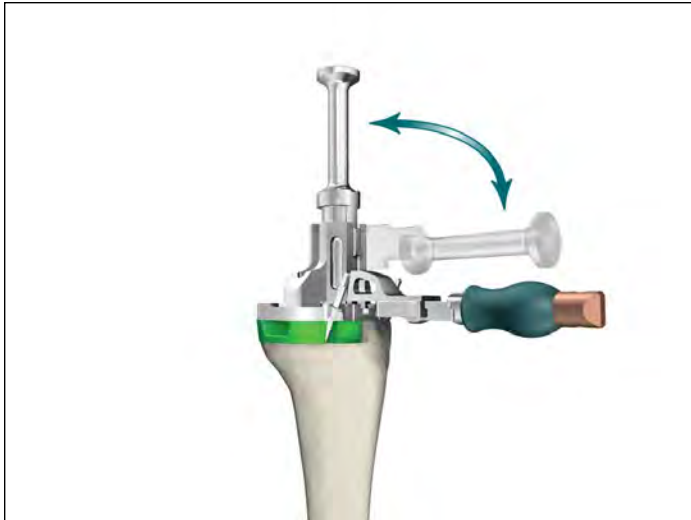

Figure 15
- To extract the Keel Punch, lift up on the Keel Punch Guide handle and pull the handle to cantilever the Keel Punch out of the tibia (**Figure 15**). Remove the Headless Pins with the Headless Pin Extractor (or Headed Nails with the Headed Nail Impactor Extractor) and remove the Universal Tibial Template.